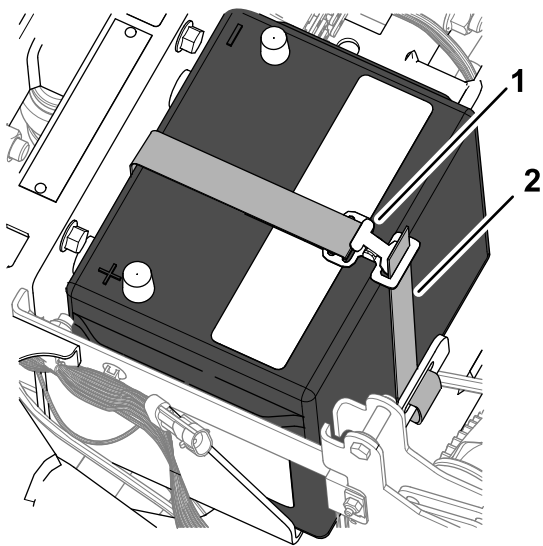

Figure 221
6. Assemble the battery (540 A) into the battery bracket as shown in Figure 221.